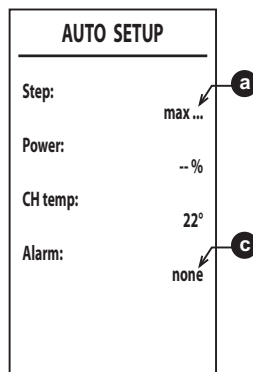

fig. 51
- If the ignition phase is unsuccessful, the message **[max_err]** appears at point **(a)** and an error code at point **(c)** (fig. 51). Possible causes of failed ignition are listed in **Note 2**. Exit Auto Setup with button , eliminate the fault and repeat the procedure from point 1.